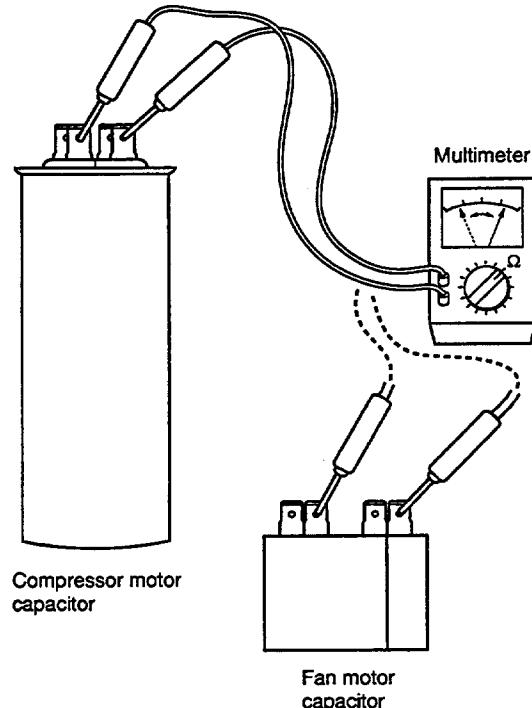

Fig. 10
- ⑤ **Motor capacitor** **Both in indoor and outdoor unit**
- Remove the lead wires from the capacitor terminals, and then place a probe on the capacitor terminals as shown in Fig. 10. Observe the deflection of the pointer, setting the resistance measuring range of the multimeter to the maximum value.